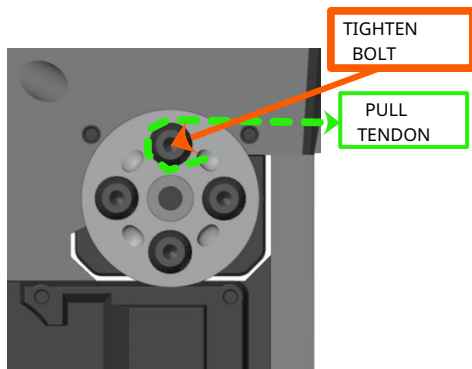
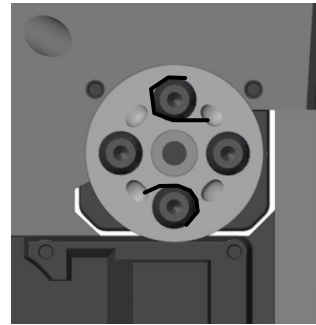

Figure 5.68: Rotation around bolt
Figure 5.69: Tendon fixed under the bolt
7. Pull the flexion end of the tendon without moving the finger position and fix it to the top bolt with a clockwise rotation around it (figure 5.68). While holding the tendon tight with a manual assembly plier, tighten the bolt well to lock the tendon (figure 5.68). The figure 5.69 shows the completed operation.